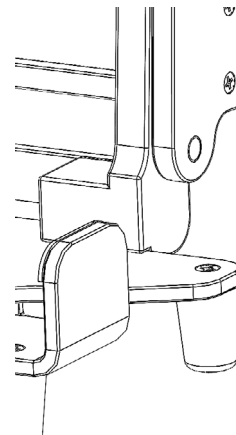

Figure 3: Installing the acetal replacement foot
3. Install the replacement foot using the provided screw coated with high strength thread lock adhesive (🔥) and a Phillips-head screwdriver #2 and/or a 1/8 in. hex key (Figure 3).